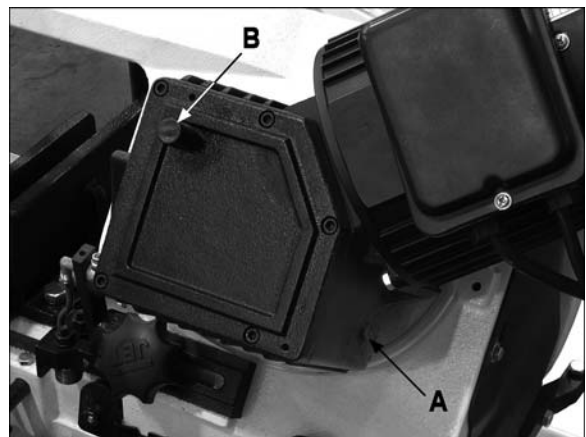

Figure 31
3. Remove drain plug (A, Figure 31) and drain oil. (Follow local regulations for disposal of used oil.)